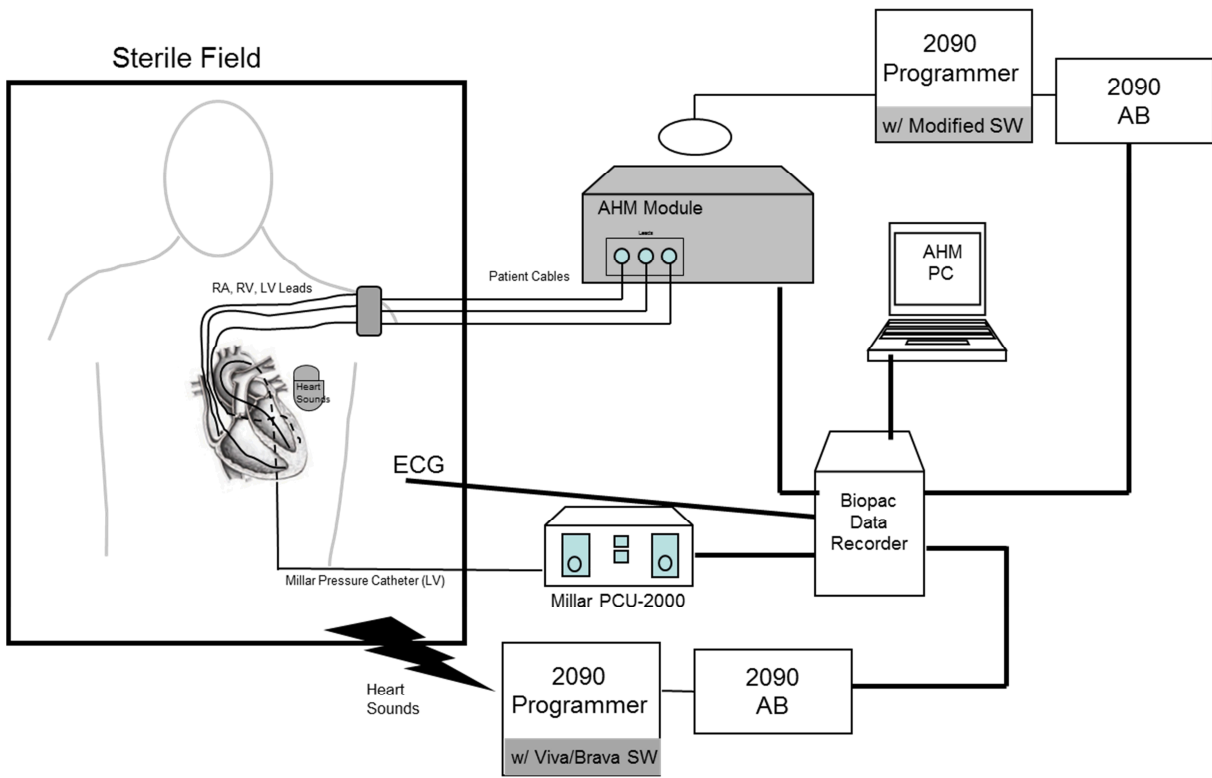

Figure 1. SOCR System Components.
The SOCR System (Figure 1) contains electronics that control the continuous stimulation and sensing required to collect real-time intracardiac impedance and heart sounds signals. The impedance signals are collected from selected electrode vector configurations using the subject's implanted pacing leads/LV catheter and an investigational impedance pacing unit, the Model 19061 Acute Human Monitor (AHM) Module. A Model 2090 programmer with the SOCR Investigational Software along with a switch on the front panel of the AHM Module allow the user to select specific electrode vector configurations for current stimulation and voltage sense measurement. The heart sounds signals are collected from an investigational Model 19062 Heart Sound Sensor Device placed on the subject.
The SOCR system is shown pictorially in Figure 1.
The SOCR System (Figure 1) is intended to be used in the Electrophysiology (EP) Lab for the clinical investigation of continuous intracardiac impedance and heart sounds signals during the defined acute human study protocol.